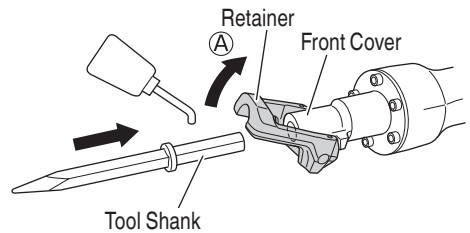

Fig. 3
- (1) Clean, then smear the accessory shank portion with grease or machine oil.
- (2) Move the retainer to open position (A) and seat the accessory, such as a bull point, a cutter, etc., in the hexagonal hole in the front cover. (See Fig. 3).